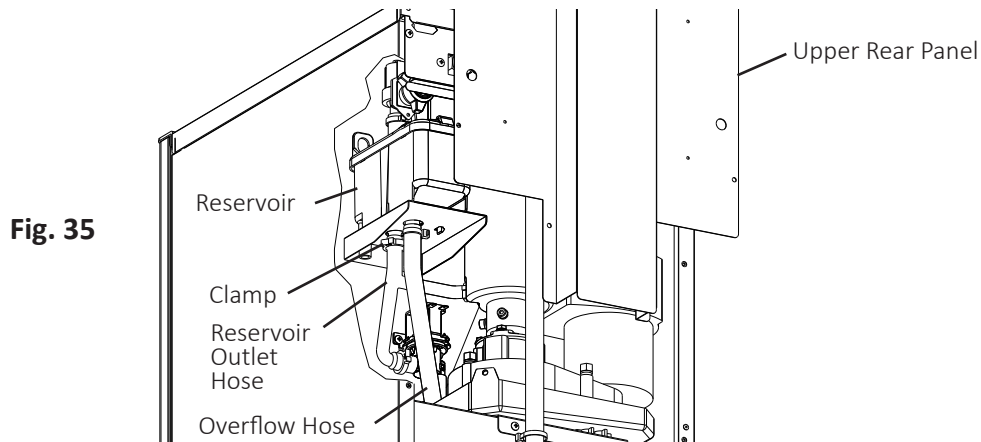

Fig. 35
11) Remove the screws securing the upper rear panel, then remove it (See Fig. 35).